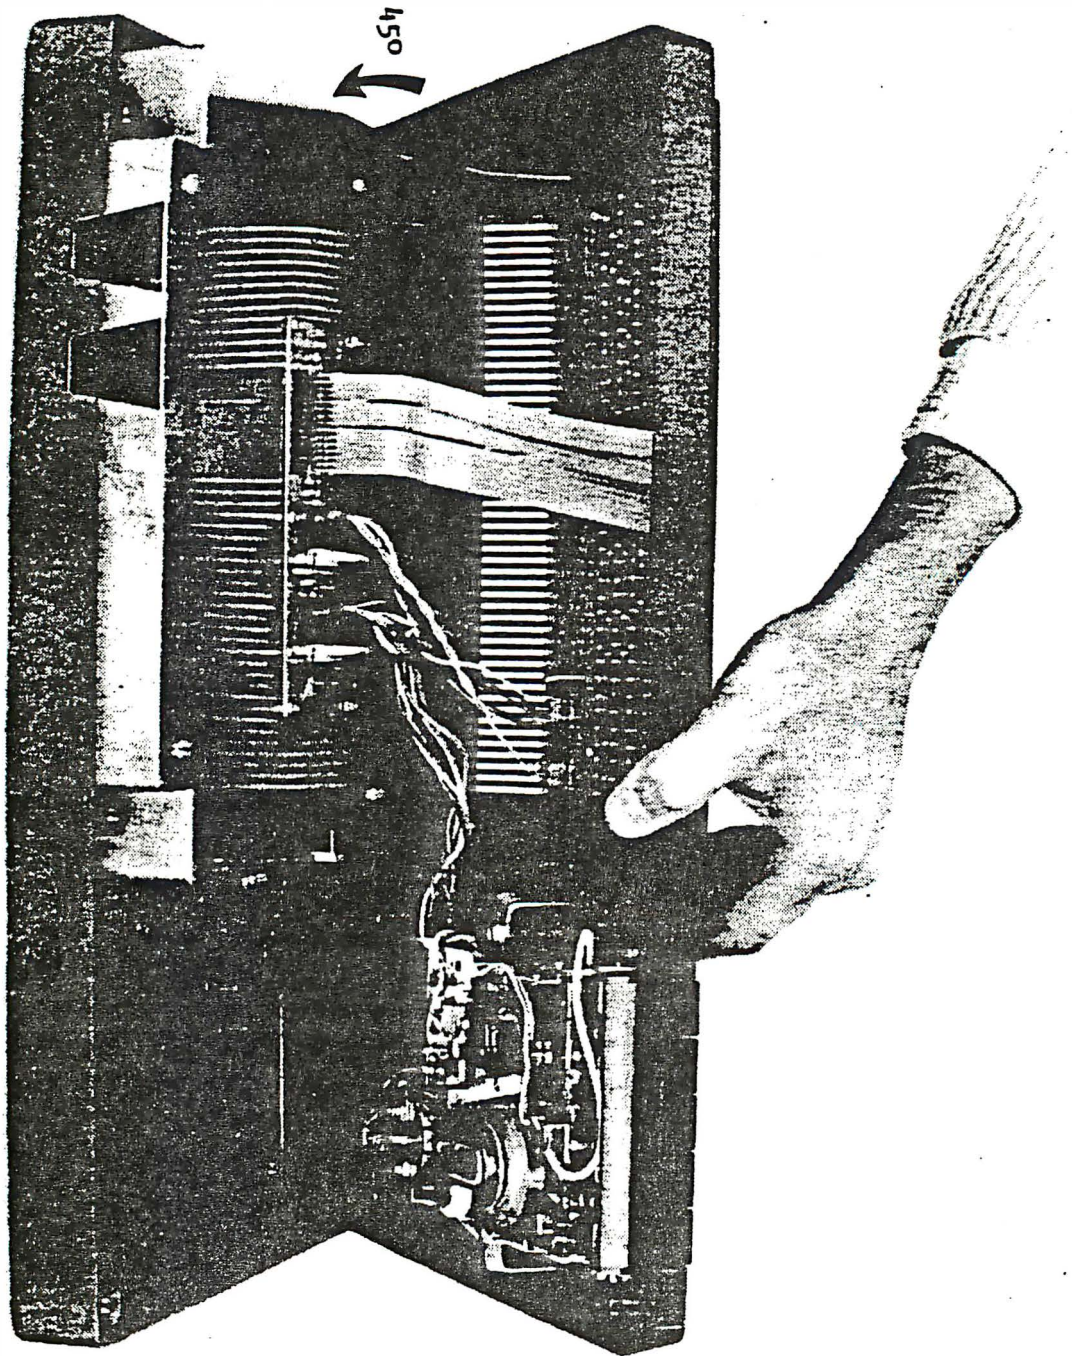

FIGURE 4--Upper Assembly - Partly Open
4. Lift the upper assembly up at approximately a 45° angle so that the internal cables are exposed, as in Figure 4.